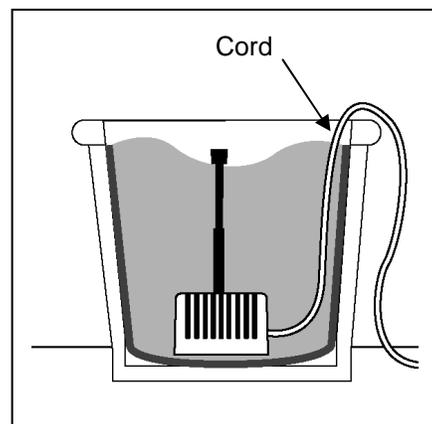

Fig. 5
5. Test fit the assembled container fountain kit in the container. For installing the fountain with the pump cord over the side of the container (recommended), proceed to step 9. For having the pump cord come out through the container wall, proceed to the next step. Fig. 5